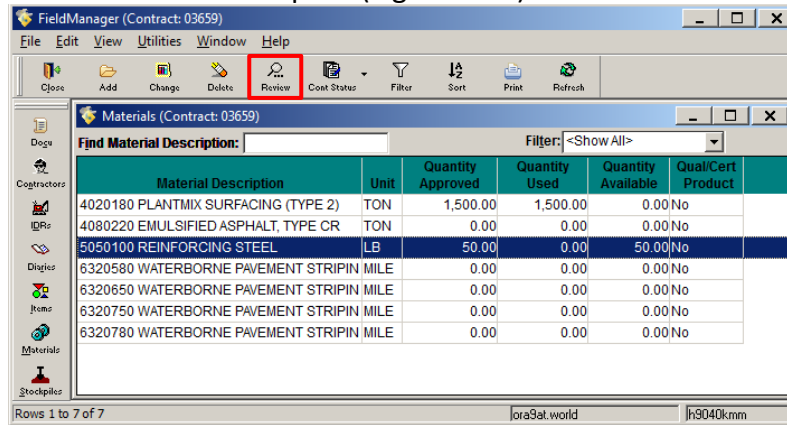
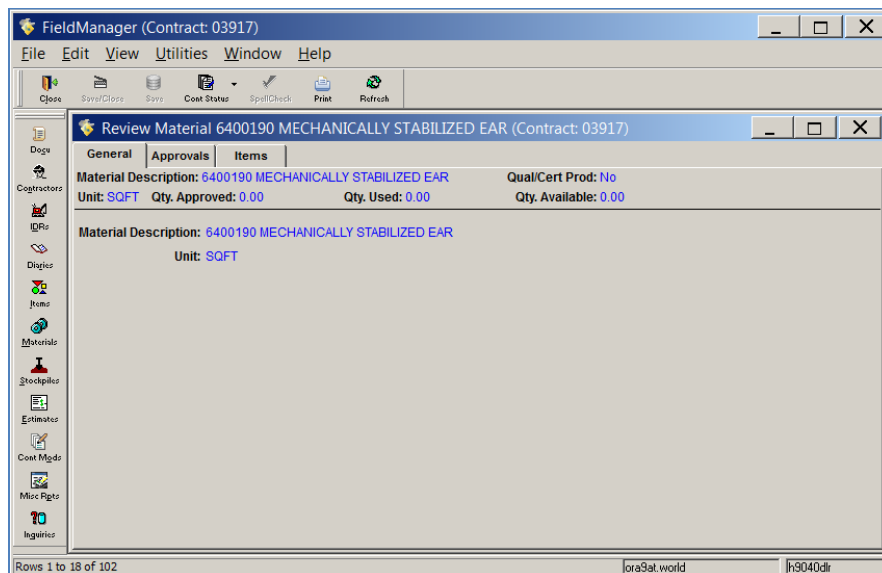

Figure 6-26. Materials List Window
Figure 6-27. Review Material Tab Window. General Tab
1. Select the contract in the Contracts list window, and click **Materials** on the Application Toolbar. The Materials list window opens (Figure 6-26).
2. Select the material to review and click Review on the Window Toolbar (Figure 6-26). The Review Item tab window opens in the General tab in a mode in which you can view but not change information (Figure 6-27).